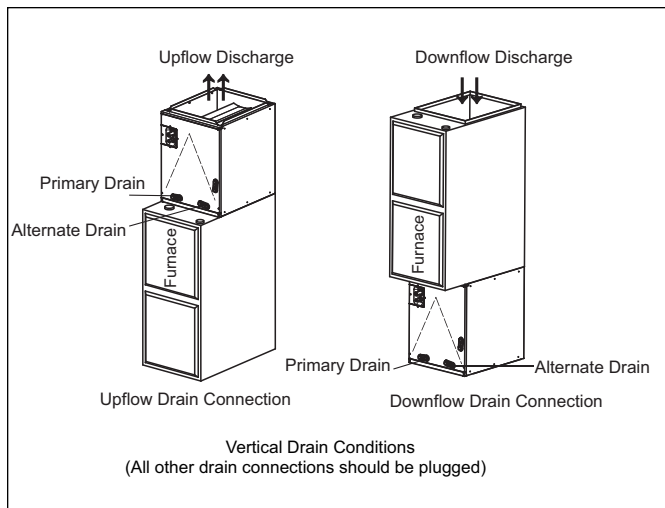
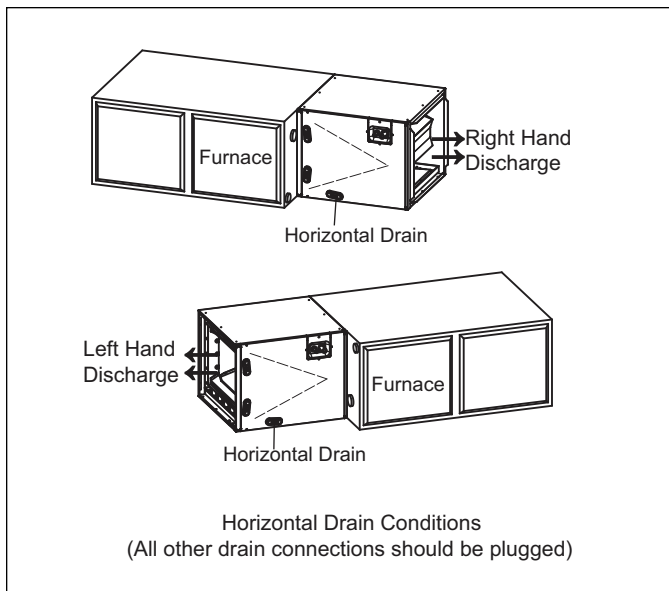

Figure 4
Figure 5
1. See Figure 4 & Figure 5 for coil installation and drain connection.
See Figure 4 & Figure 5. In case that coil and furnace sizes are not matched, use proper size of sheet metal or other material to fill the gap and seal the gap to prevent air leak.
The cased coil should be installed with the front of the cased coil facing the front of the furnace (see Figure 4 & Figure 5). This ensures proper airflow through the coil and allows for optimal serviceability of the TXV, coil cleanings, and coil removal. In some applications where the cased coil must be installed 180 degrees from the front of the furnace (facing the back), proper airflow directed through the coil will still be maintained. However, serviceability of the TXV, coil cleaning, and coil removal may be difficult unless access to the rear of the furnace is provided.